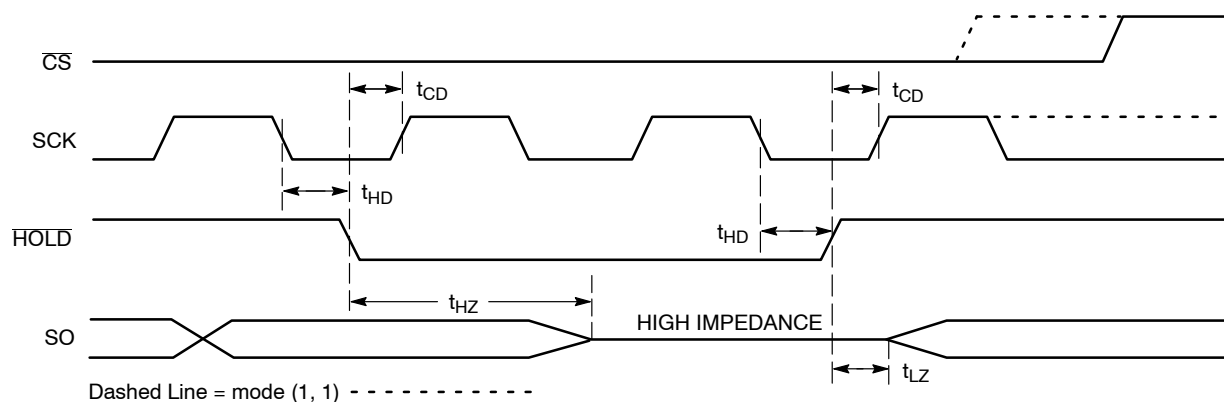

Figure 11.  $\overline{\text{HOLD}}$  Timing
The  $\overline{\text{HOLD}}$  input can be used to pause communication between host and CAV25010/20/40. To pause,  $\overline{\text{HOLD}}$  must be taken low while SCK is low (Figure 11). During the hold condition the device must remain selected ( $\overline{\text{CS}}$  low). During the pause, the data output pin (SO) is tri-stated (high impedance) and SI transitions are ignored. To resume communication,  $\overline{\text{HOLD}}$  must be taken high while SCK is low.